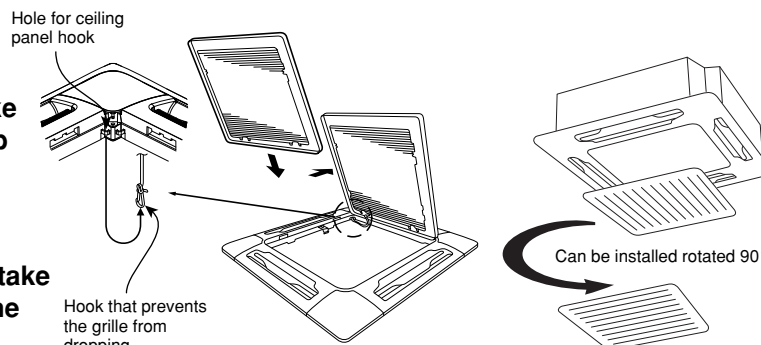

Fig. 6-24
- **Be sure to attach the safety cord that prevents the air-intake grille from dropping off to the ceiling panel unit as shown in Fig. 6-24.**